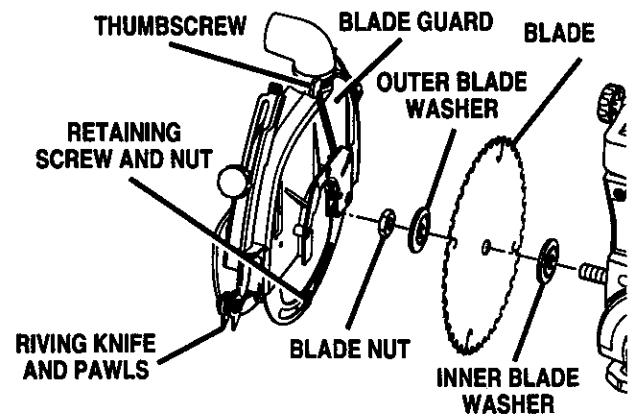

Fig. 26A
See Figures 26A – 26C.
- Collect the blade and hardware that were removed earlier. Place the inner blade washer, saw blade, outer blade washer, and blade nut on the blade arbor. See Figure 26A. **Note:** The concave side of blade washers go against the blade.
- Attach the blade guard over the blade so the riving knife and pawls face front. See Figure 26A.